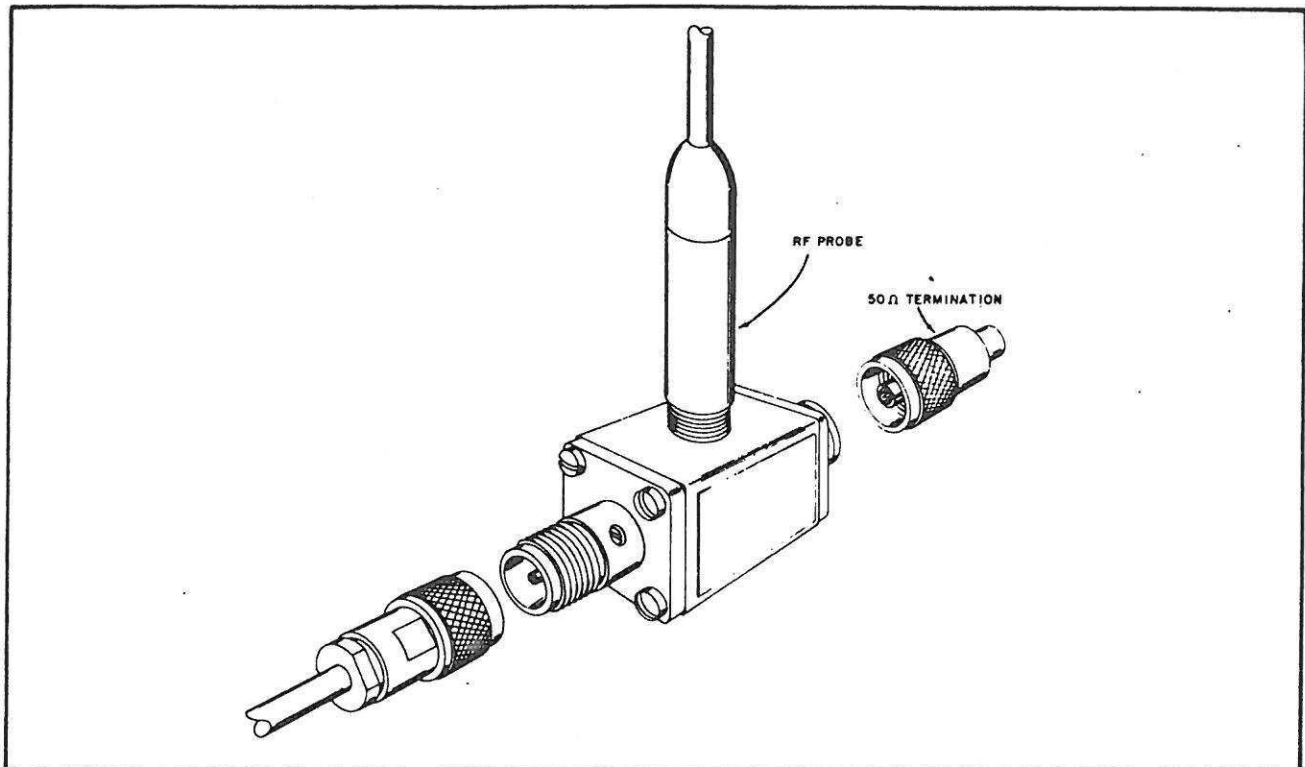

Figure 3-3. Attachment of Model 952003 50 Ohm N Tee Adapter to Model 952001A Probe and Model 952014 50 Ohm Termination.
b. For frequencies above 100 MHz, the probe tip should not be used because the series impedances of the connection will affect the voltage level at the probe and cause an error in measurement. For high impedance voltage measurements, connection should be made directly to the center contact of the RF probe, with the ground connection kept as short as possible. For matched impedance measurements, one of the various terminated adapters, tee adapter or Model 952009 Probe should be used Refer to Figure 3-3.